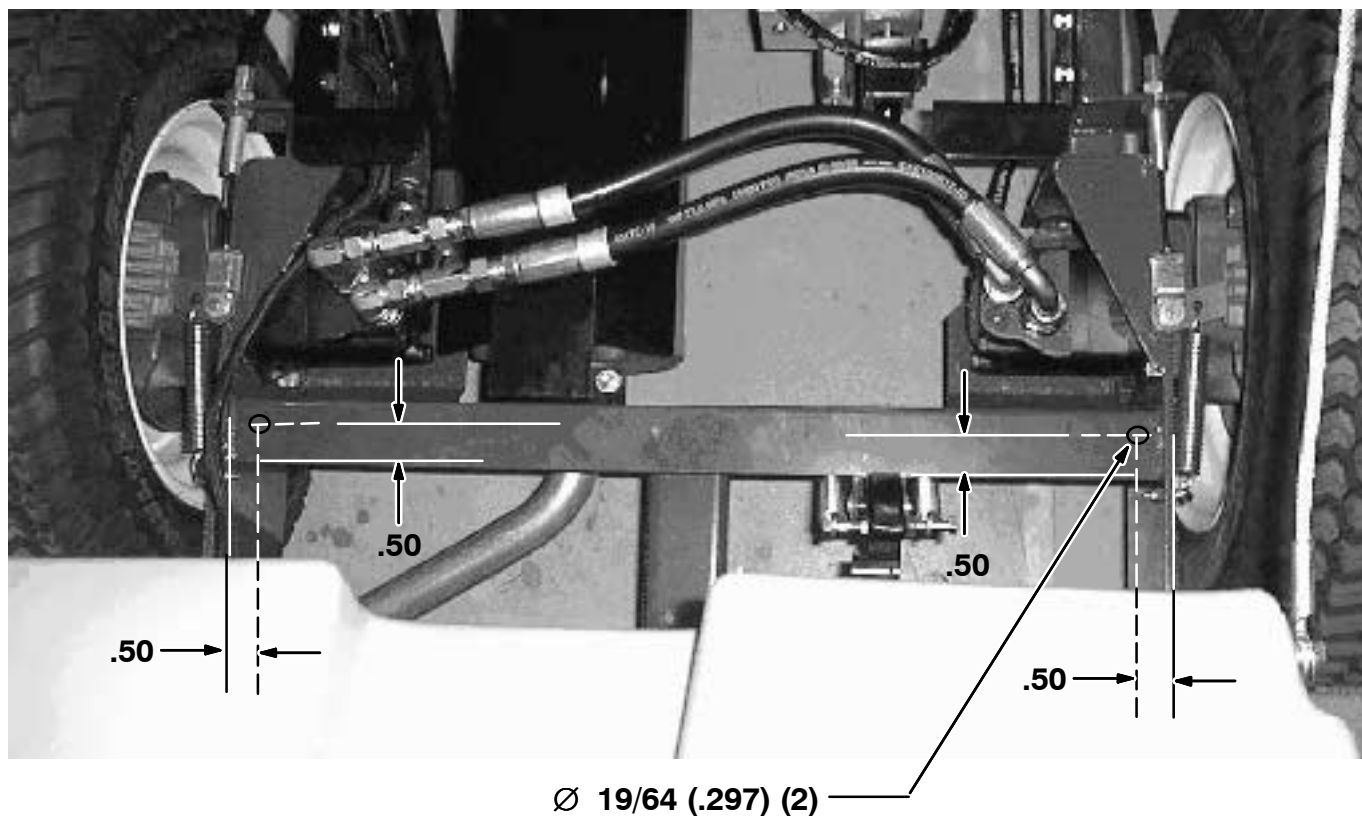

FIG. 2 - HOLE LOCATIONS FOR SPRING EYELET MOUNTINGS
1. Mark and drill two 19/64 [7.5 mm] holes for bolt eyelet installation on the machine frame, beneath the debris hopper as shown in Fig. 2. (Refer to FIG. 2, 5 and 7)